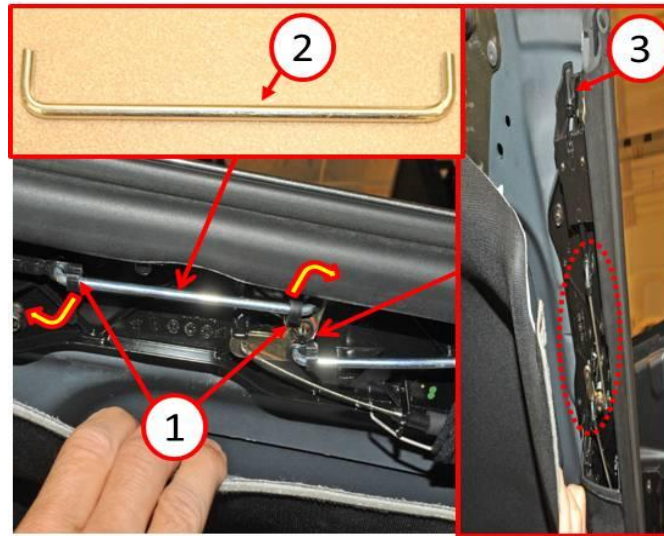

Fig. 2 Down Capture Receiver Rod Replacement
3. Replace the damaged or bent receiver rod(s) by swinging the retaining clips open and pulling the rod out of the clips (Fig. 2).